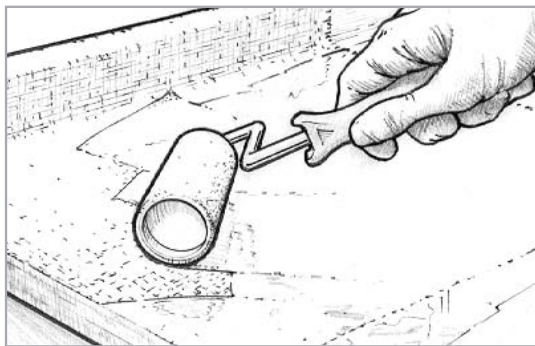

Figure 8-22 Apply the first coat of unthickened epoxy to fill the weave of the cloth before the wet-out coat reaches its final cure phase.
9. Coat the surface to fill the weave before the wet-out reaches its final cure stage (*Figure 8-22*). Follow the procedures for epoxy barrier coating under Section 7.2. It will take